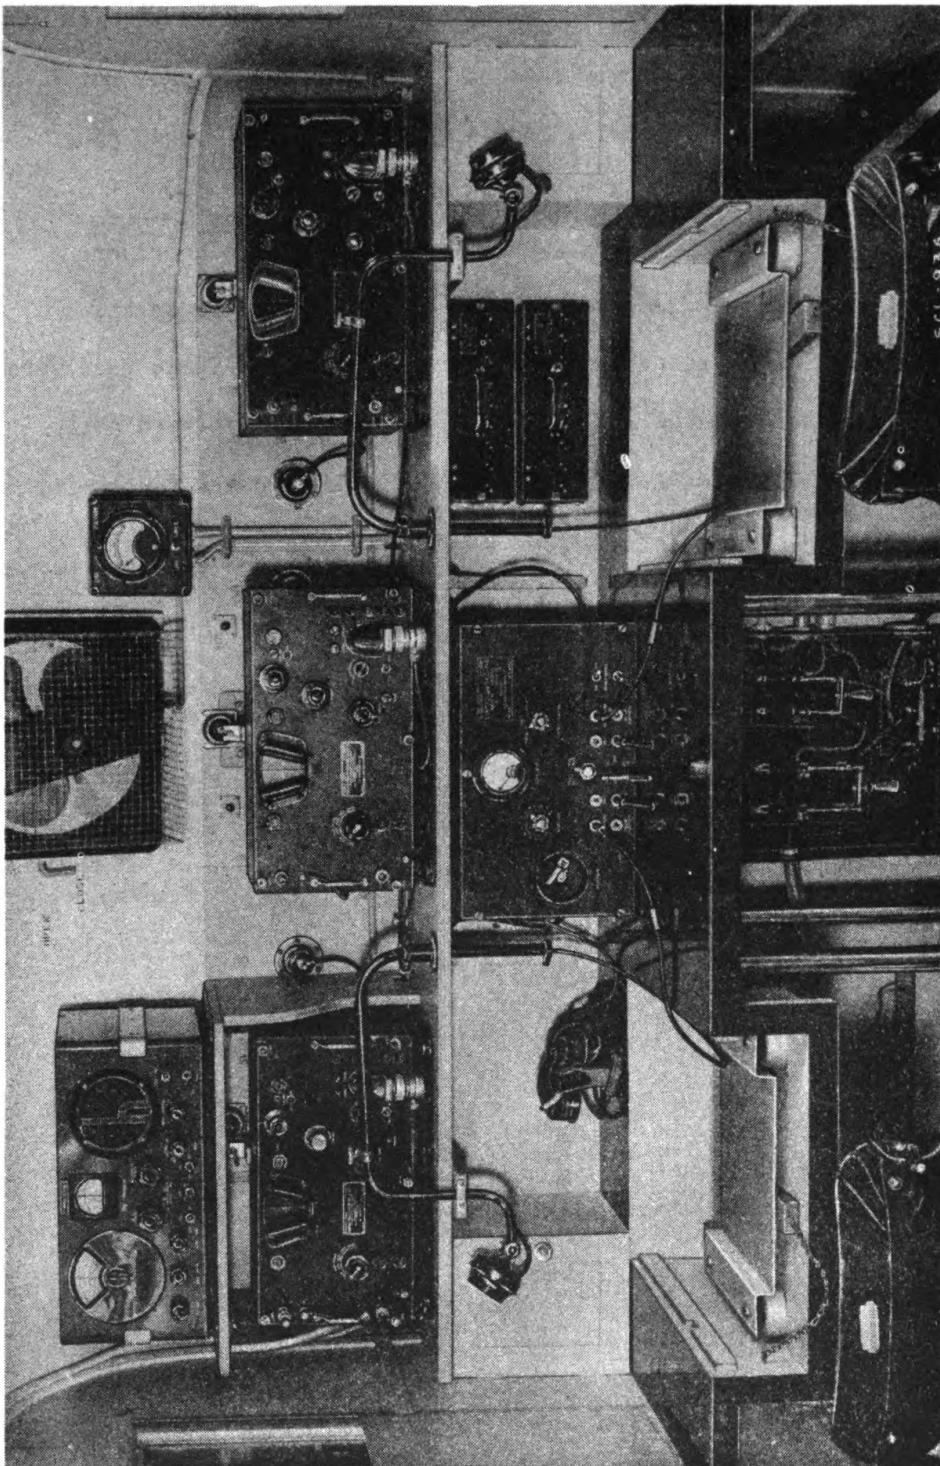

Figure 5. - View of operating table in Trailer K-19-(*). The wells under the microphones accomodate typewriters.
16. RADIO EQUIPMENT IN TRAILER K-19-(*) . - a. Radio Receiver BC-342-(*) . Three Radio Receivers BC-342-(*) are installed on the shelf in the forward part of the trailer. (See Fig. 5) These receivers obtain their power from the a-c outlets situated in the forward part of the trailer. Full information concerning Radio Receiver BC-342-(*) is contained in TM 11-850.